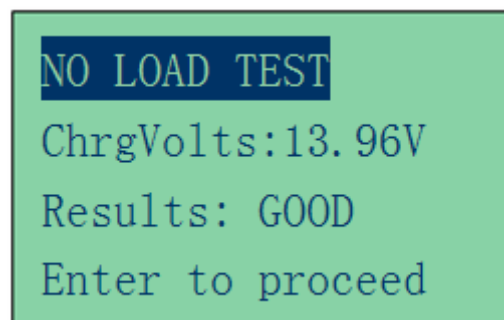

Figure 45
6. Press **ENTER** key will show the results of the test (Figure 45):
7. Continue from the previous test (Fig. 45); proceed to the next step by pressing  key will enter to the display as follows. (Fig.48)